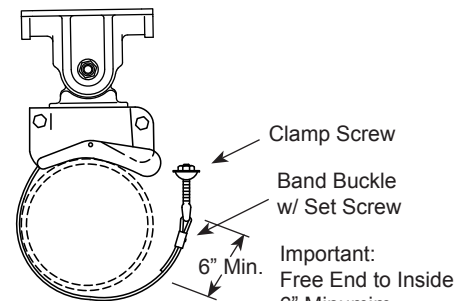

Figure 2
5. Slide a band buckle on the band with the set screw to the outside. (Figure 2)
7. Center the clamp screw on the mark and bend the band to the inside 180 degrees. (Figure 2)
8. With a pair of pliers, crimp the bend in the band around the clamp screw and slide the band buckle over the free end of the band and position as close to the clamp screw assembly as possible. Torque the set screw in the band buckle to 13 ft-lb. (Figure 2)
Note: Make certain the free end of the band is turned to the inside and is a minimum of 6" long as shown in Figure 2.